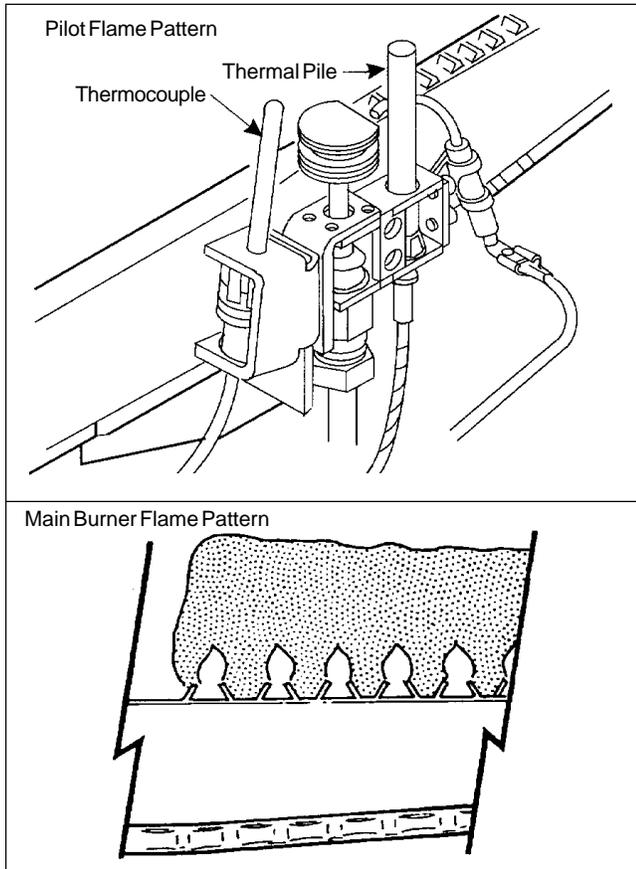

Figure 22. Pilot and main burner flame patterns.
5. Make a regular visual check of the main burner and pilot flame patterns (see Figure 22).